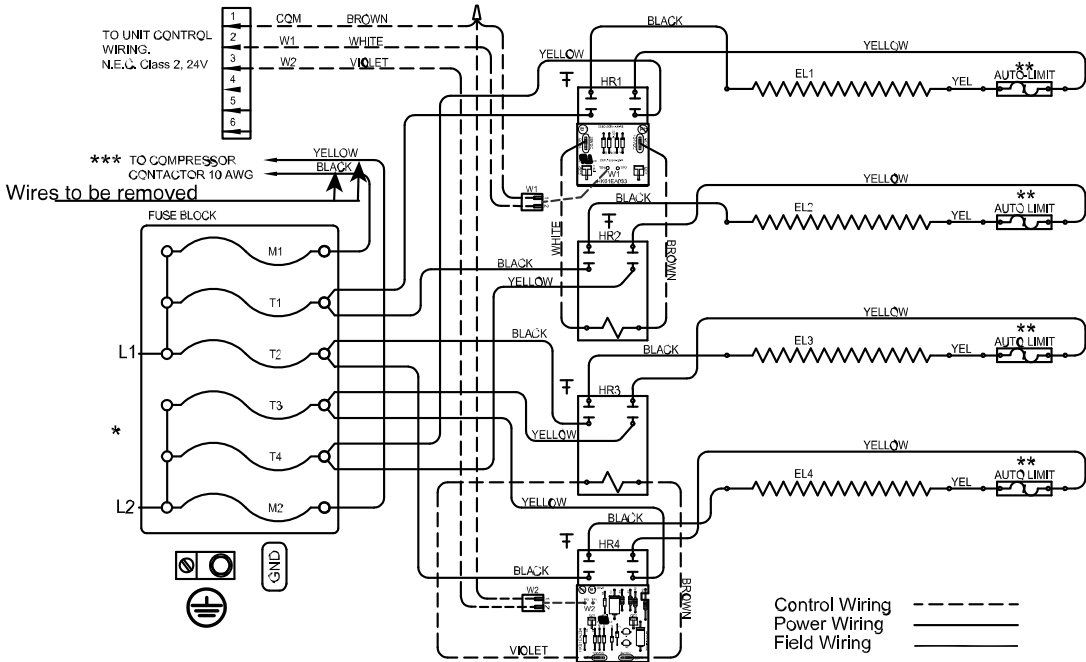
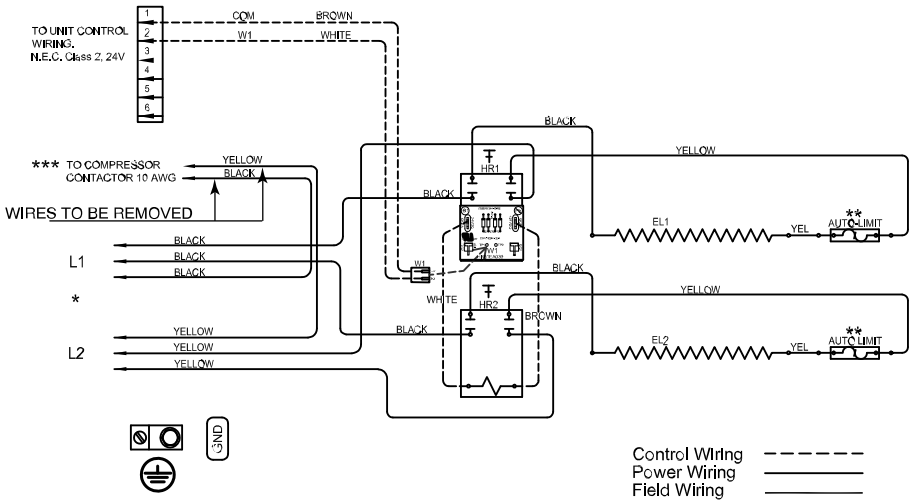

Fig. 4 – Wiring Diagram Example for Fused Heater
Fig. 5 – Wiring Diagram Example for Non-Fused Heater
5. Remove power line connection from heater to unit contactor and compressor (see Fig. 4 and Fig. 5). These are the stripped end wires black and yellow, with opened ends.